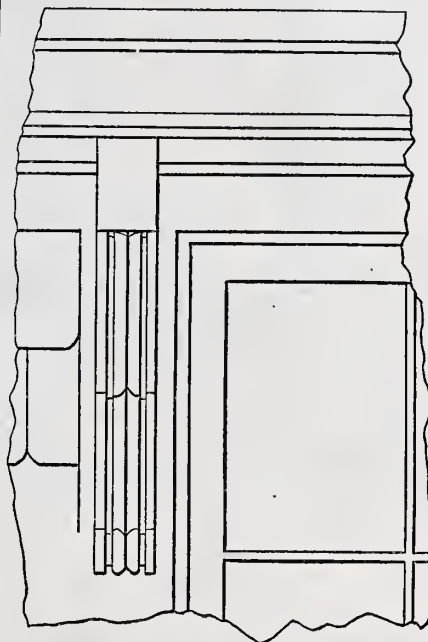

Fig. 13.—Elevation of Molding and Face of Bracket in Finish of End Elevation.—Scale,  $1\frac{1}{2}$  Inches to the Foot.
*Lessons in Carving.—Fig. 13.—A Rosette in Clay, the Four Quarters showing Different Degrees of Finish.*
In a disposition of the lights and shadows, considered by themselves, we find in modeling that the same rules may be observed that guide us in designing in black and white upon a flat surface. The means for obtaining lights and shades of gradation are altogether different. For example, in Fig. 13 we roll up a ball of clay in the hand and place it in the center of the rosette, and we obtain a small and very high light, which will be graduated into a shade upon one side, while upon the other side will be a strong, dark shadow, and if there is a background on the side away from the light, there will be a shadow darker upon that surface than upon the ball itself. In this particular case, however, there is no flat background, and consequently no opportunity for a shadow to be thrown. The exact position of the light point will, of course, be determined by the direction in which the light falls. If the light comes from directly overhead, the shadow will probably be very strong and the effect very bold. A great portion of our ornamental work is modeled under a light which falls thus upon it, or at an angle of perhaps 40 or 45 degrees. This is admirable for the artist, but the work suffers, because the most of wood carving—and, in fact, most of the ornamental work in relief—is seen by side lights. Consequently, if we make our first design to be seen from a light coming from above, it suffers when seen in a side light. If the student will model a rosette like that shown in Fig. 13 or Fig. 15, doing it with a light falling in one direction only upon his work, and without turning it around, he can easily get a very pleasing effect. If he now turns the work through 45 degrees or 90 degrees, a very decided
of reach of the light. In Figs. 13, 14 and 15, deep shadows are obtained by carrying the work down to great depths, so that in any ordinary light they will appear almost black. Shadows of projecting parts may sometimes be used for the same purpose. In the leaf on the right hand of Fig. 14 we have an illustration of how twisted or winding surfaces give modulated lights and shadows. Where fine lines of light are wanted, they are obtained by means of sharp raised edges. Lines of black, as in Fig. 13, can be obtained by sunken lines, the depth of color or shade being in proportion to the depth of the cut. In Fig. 14, which was sketched from a model made by a beginner, two leaves are shown, illustrating different kinds of work. The one on the left-hand side is like that employed in stonework, and in that material is very easy to produce. Such convex surfaces, however, are difficult in wood, and the leaf on the right shows more nearly the form which would be used by wood carvers.